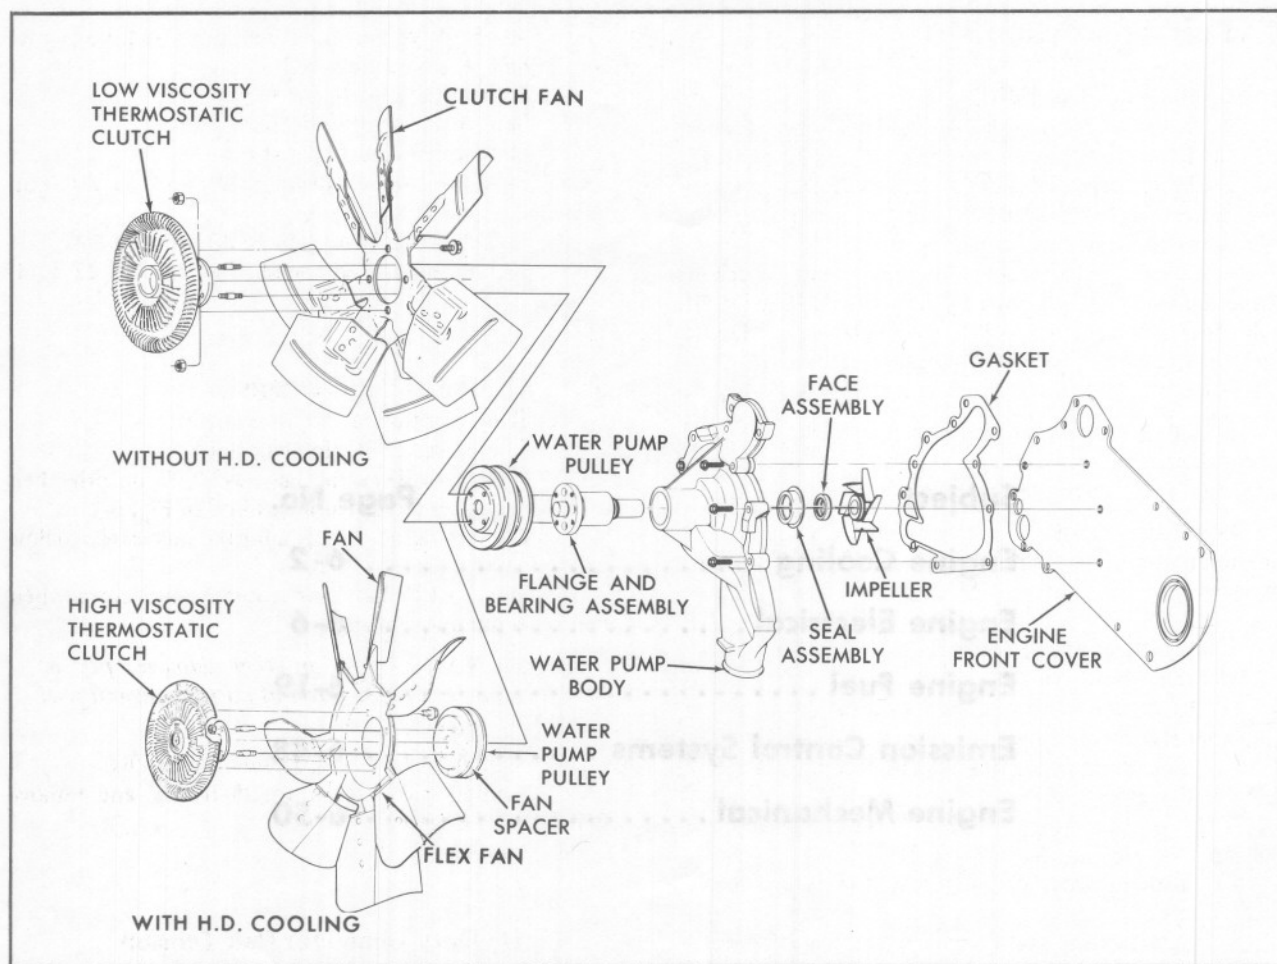

Fig. 6-1 Water Pump Disassembled
c. A seven bladed fixed blade fan with clutch is used on all cars without heavy duty cooling (Option VOI) except commercial chassis and Limousine, Fig. 6-1.
d. A seven bladed flex fan with clutch is used for heavy duty cooling (Option VOI) and all commercial chassis-Limousine applications, Fig. 6-1.